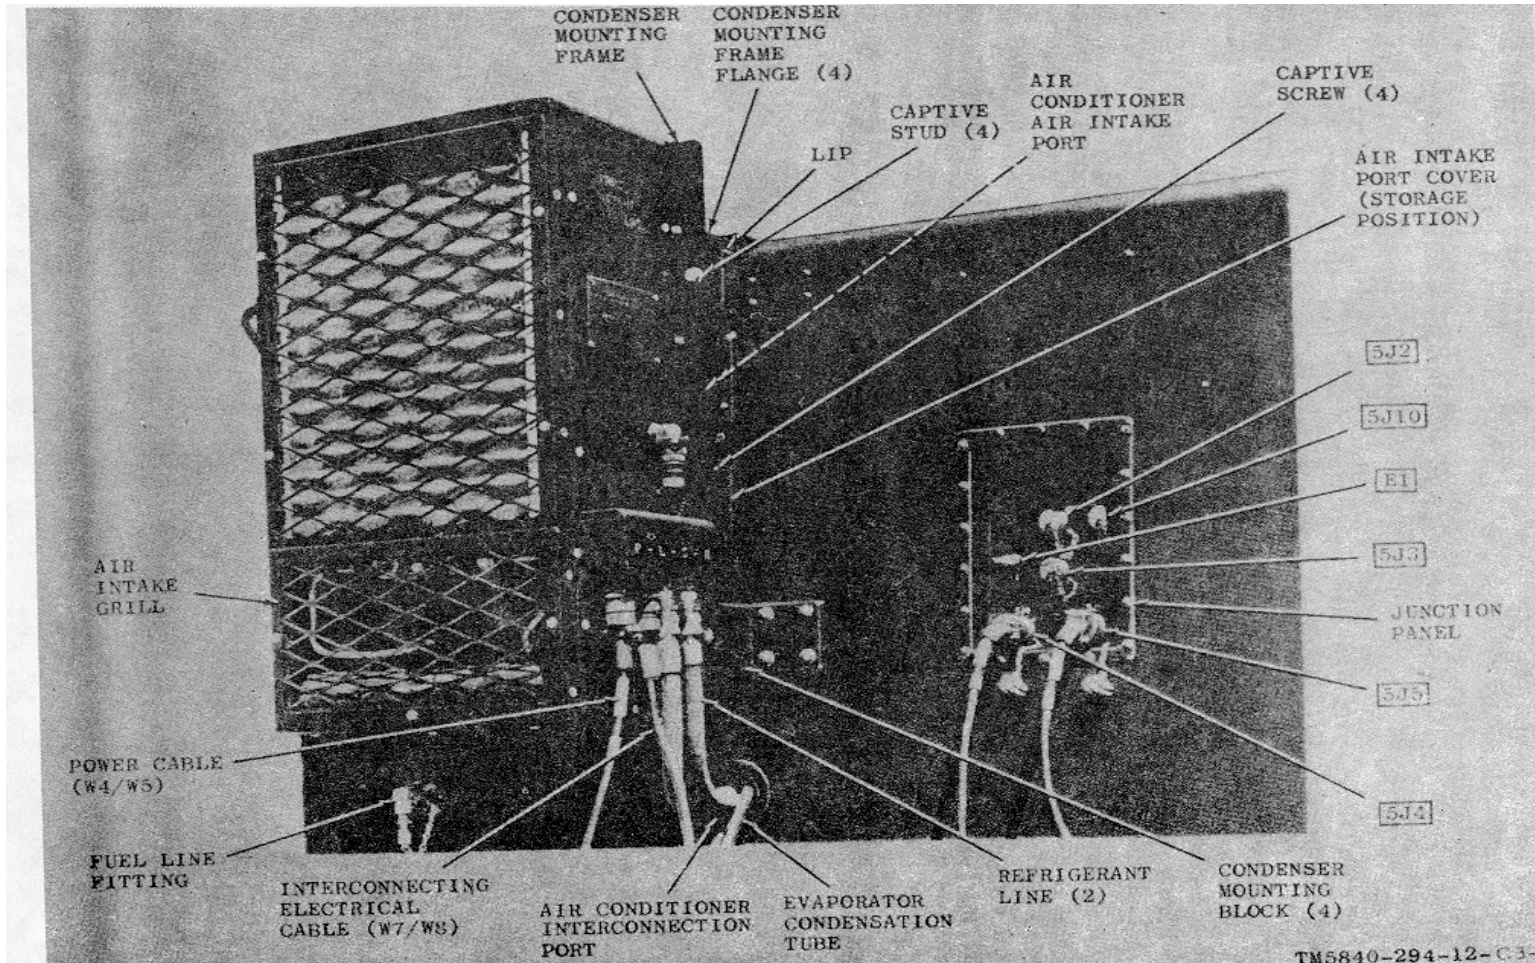

Figure 2-3. Shelter left wall, showing air conditioner condenser section interconnections
- k. Attach the other end of the ground strap to terminal E1 (fig. 2-3) on the junction panel on the shelter left wall.
inside the shelter. The air conditioner condenser sections are stored on condenser storage mounting brackets (fig. 1-7) attached to the shelter right wall. The interconnecting refrigerant lines and electrical cables (W7, W8) may remain attached to the air conditioner evaporator sections or may be removed and stored in the storage case. Covers for the air conditioner air intake ports are in use during transit and are stored as shown in figure 2-3 when the air conditioners are in use. Two men are required for installing the air conditioner condenser sections. Installation consists of removing components from their storage positions and installing them, as described in a through e below.
a. *Removing Air Conditioner Air Intake Port Cover(s)* (fig. 2-3)
- (1) Loosen the four captive screws that secure the air conditioner air intake port cover in the transit position.
- (2) Remove the air conditioner air intake port cover from in front of the air conditioner air intake port.
b. *Installing Air Conditioner Air Intake Port Cover(s) in Storage Position* (fig. 2-3).
- (1) Place the air conditioner air intake port cover in its storage position below the air conditioner air intake port.
- (2) Align the four captive screws with the mounting holes.
- (3) Tighten the four captive screws.
- (1) Loosen the four captive studs that secure the air conditioner condenser section to the condenser storage mounting brackets (fig. 1-7). Lips on the upper condenser mounting frame flanges (fig. 2-3) prevent the units from falling when the studs are loosened.
- (2) Lift the air conditioner condenser section enough to free the lips on the upper condenser mounting frame flanges from the condenser storage mounting brackets, and then remove the unit from the shelter.
g. Remove the protective cap from the fuel line fitting (fig. 2-3) on the shelter left wall.
- e. Plug connector P1 of one cable W2/S into connector 5J2 (fig. 2-3) on the shelter junction panel.
- f. Plug connector P1 of second cable W2/8 into connector 5J3 (fig. 2-3) on the shelter junction panel.